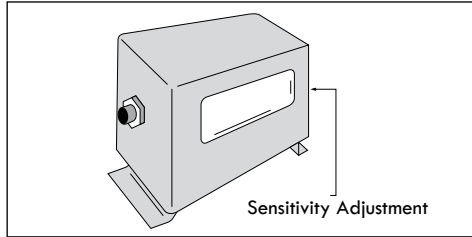

Figure A-139: Vibration Switch detail
- Press the reset push button to engage the magnetic latch. To be sure the magnetic latch has engaged, observe latch through the window on the vibration switch (see Figure A-139).